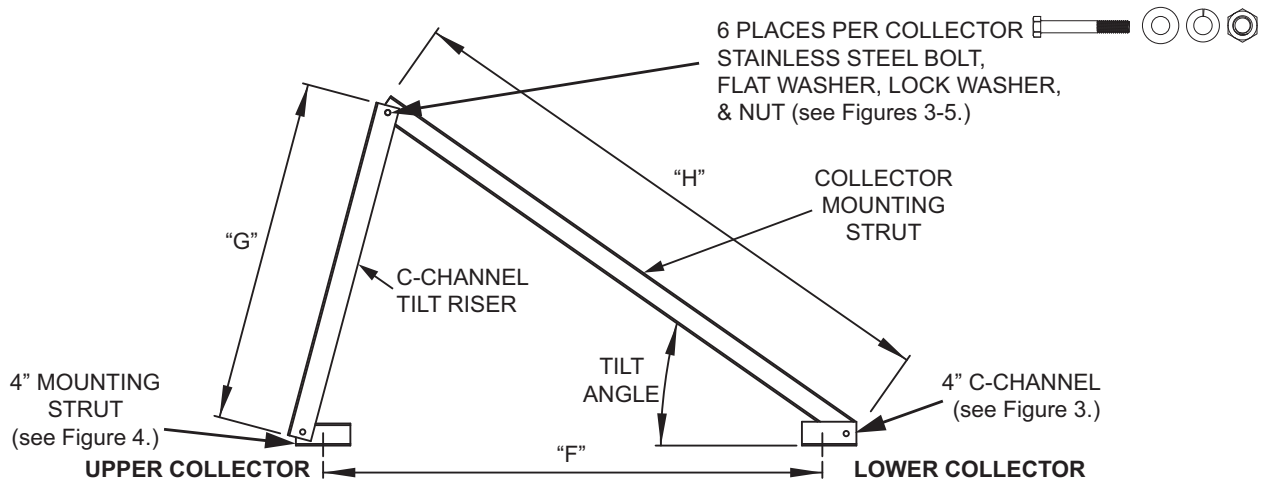
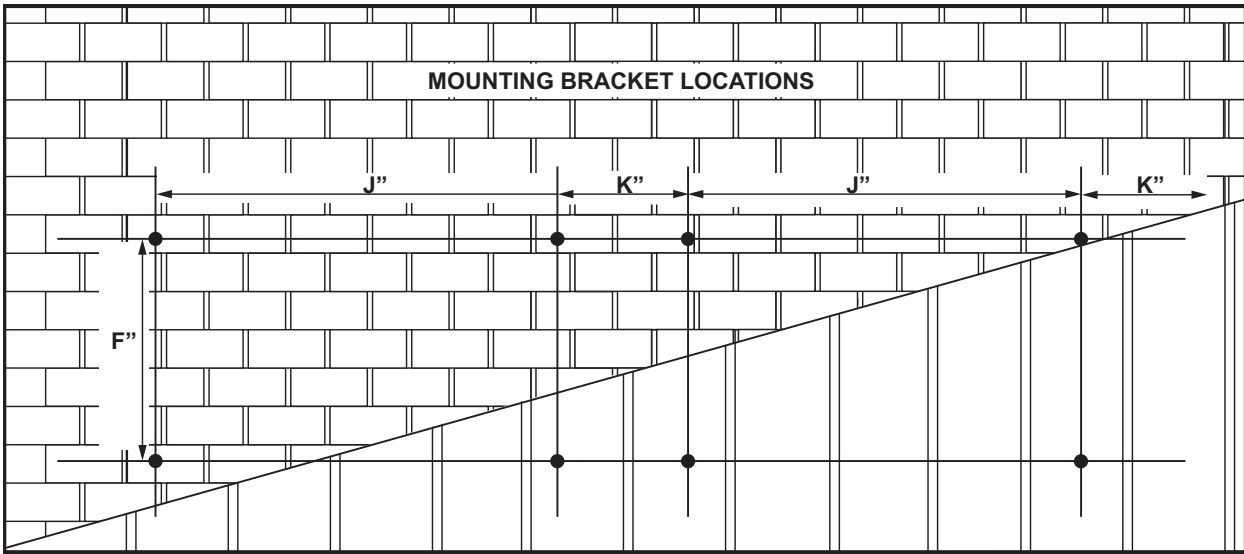

Figure 6.
Figure 7.
Locate the mounting points for the mounting brackets per Figure 6, Figure 7 & Table 2. Layout the roof as specified in the solar installation manual or the optional solar collector mounting kit being used. Keep in mind the “H” dimension listed in Table 2 when marking the mounting points.
2. Install the 4” mounting bracket strut to the upper collector mounting location with the stainless steel fasteners included with your solar collector crate package or other optional solar collector mounting kit. See Figure 6 for placement of mounting bracket strut.
3. Install the 4” C-Channel mounting bracket to the lower collector mounting location with the stainless steel fasteners included with your solar collector crate package or other optional solar collector mounting kit. See Figure 6 for placement of C-Channel mounting bracket.
6. Install the C-Channel Tilt Riser to the upper 4” mounting bracket strut with the included stainless steel hex bolt, lock washer, flat washer, and hex nut. See Figure 3 & Figure 6.
9. Install one end of the Collector Mounting Strut to the lower 4” C-Channel mounting bracket with the included stainless steel hex bolt, lock washer, flat washer, and hex nut. See Figure 4 & Figure 6.
10. Install the other end of the Collector Mounting Strut to the loose end of the C-Channel Tilt Riser with the included stainless steel hex bolt, lock washer, flat washer, and hex nut. See Figure 5 & Figure 6.
11. Repeat steps 2 - 10 including Figure 7 for the remainder of the mounting bracket locations.